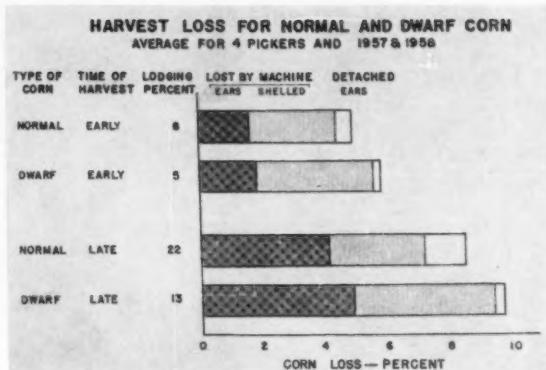

Fig. 2 Harvesting losses in dwarf corn are high. Excessively low-growing ears are often crushed by the snapping rolls.
The over-all losses shown in Fig. 2 indicate that present machines are not too well adapted to harvesting dwarf corn. Shelled corn losses were higher in the dwarf hybrids than in normal corn because some of the ears of the dwarf corn
**Fig. 2 (Above)** Interior of master unit showing lucite silos, with silage samples under pressure of pistons actuated by air cylinders below. Manostats controlling pressures for all three units are at the upper right. Juice collection bottles stand next to air cylinders. Gas collection bottles and NO2 detection bottles are on the shelf at the bottom